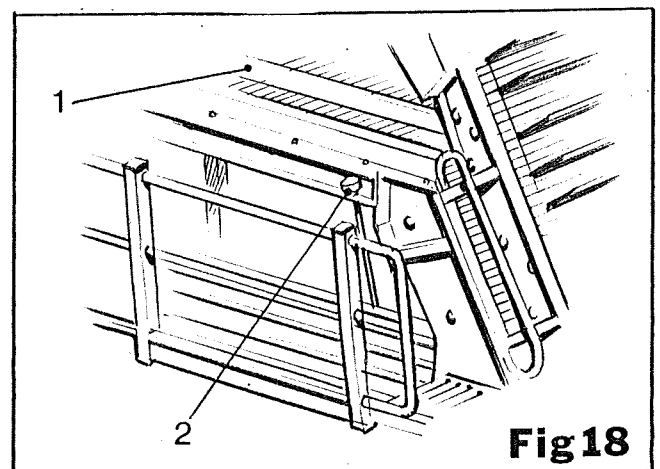

Fig 18
A double platform allows up to six pickers to work in comfort, three either side of the picking table. Two wooden rails (item 1, fig 18) are positioned above the picking web so providing the pickers with two moving reject belts. On the manned machine the 'C' Elevator, Picking Table and Discharge Elevator are all hydraulically driven and can be varied in speed to suit the crop conditions. To adjust the speed of the elevators, turn the control knob (item 2, fig 18) situated on the front platform near the steps. The higher the number, the faster the web will travel.